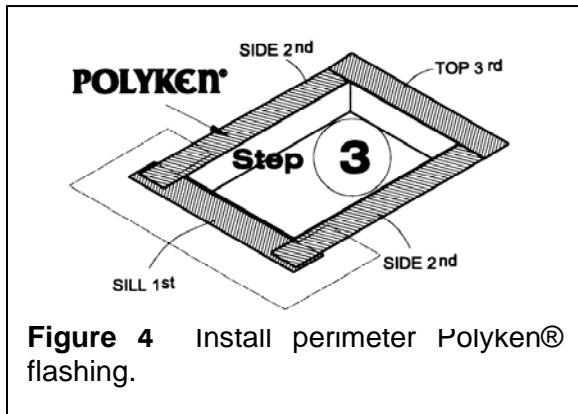

Figure 4 Install perimeter Polyken® flashing.
Step 3. Apply strips of Polyken® or Nashua® flashing around the opening starting with the sill, then the sides, and the head. Extend Polyken® or Nashua® flashing a minimum of 6" beyond the opening on all sides. Hand roller strips and laps flat to substrate at sides and to underlayment skirt at sill (see Figure 4).